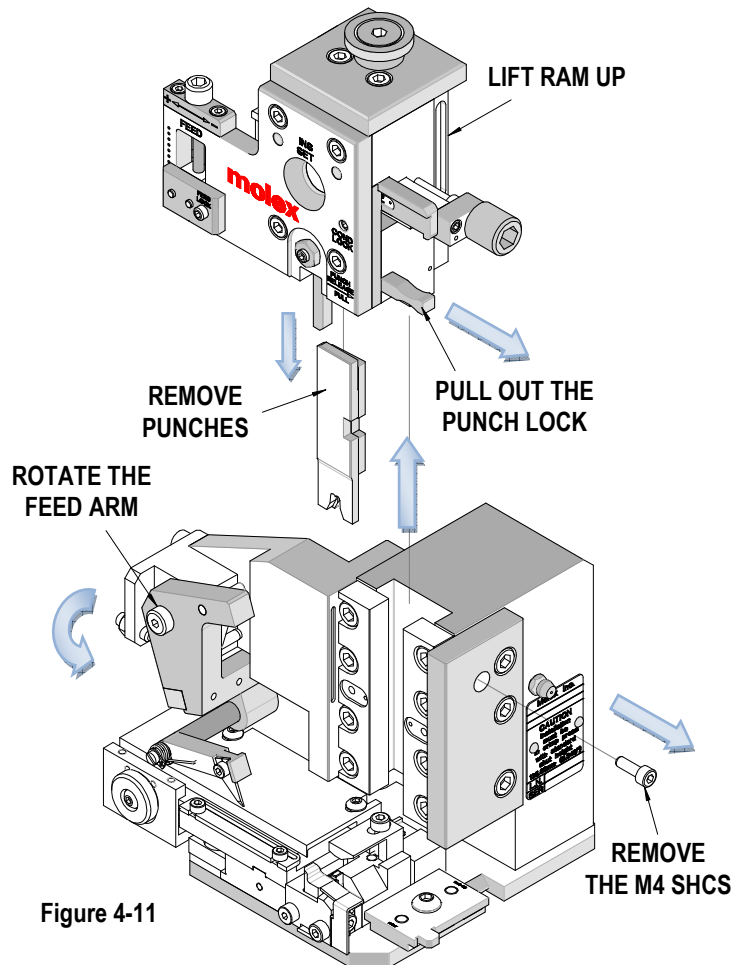

Figure 4-11
3. Use a 3mm hex wrench to remove the M4 socket head cap screw retaining the ram. See Figure 4-11.
5. Pull out the punch release. While holding it out, pull the conductor and insulation crimp punches out the bottom of the ram. See Figure 4-11.